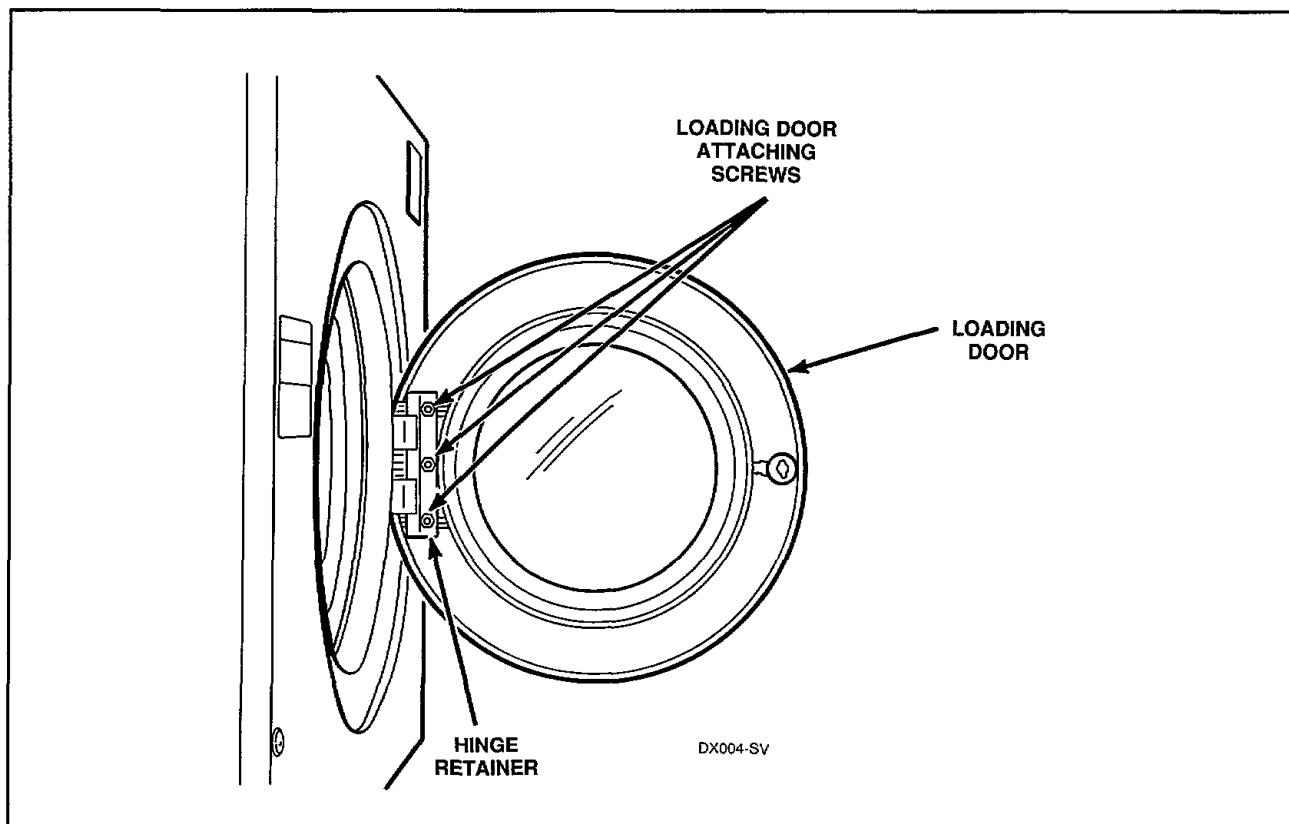

Figure 4
- b. While supporting the loading door, remove the three screws and lockwashers holding loading door to hinge retainer and remove door, *Figure 4*.
- a. While supporting the loading door, remove the three screws and lockwashers holding the loading door to the hinge retainer and remove door, *Figure 4*.
- b. While supporting loading door, remove the screws and lockwashers holding loading door to the hinge retainer and remove door, *Figure 4*.